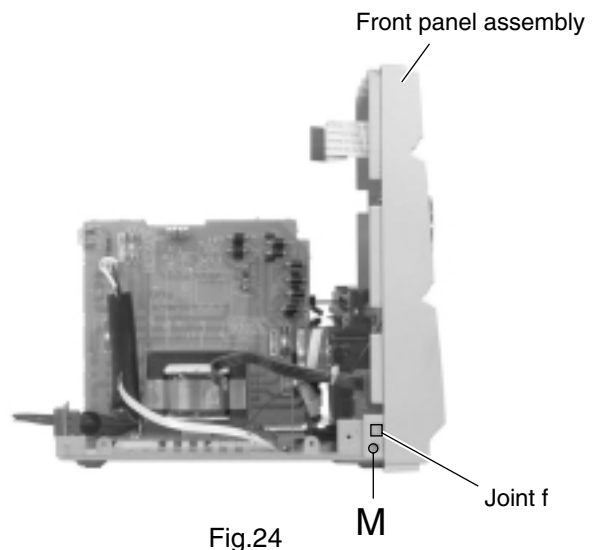

Fig.24
**■ Removing the front panel assembly (See Fig.24 and 25)**